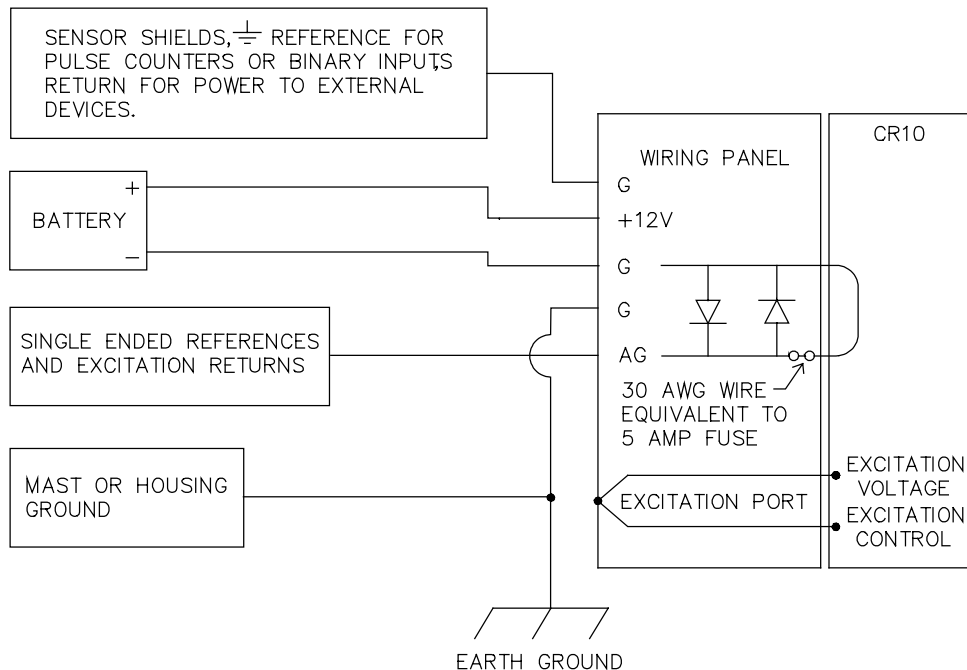

FIGURE 14.7-1. Wiring Panel Grounding Diagram and Excitation Control
Every terminal on the Wiring Panel, with the exception of ground (G) and analog ground (AG) terminals are spark gapped. The spark gaps will fire at 150 V and the current will be diverted to ground. As shown in Figure 14.7-1, the power ground and analog ground are independent lines until joined inside the CR10. The fuse shown in Figure 14.7-1 (located on the underside of the Wiring Panel) is a 30 AWG wire, equivalent to a conventional 5 Amp fuse. It will blow if a sufficient transient comes in on the G or AG lines, at which time the current is
The purpose of the Wiring Panel is to provide transient protection, improve excitation voltage accuracy, and make convenient, positive connections of power, sensors, and peripherals to the CR10 (refer to Figure 14.7-1). Wiring Panel transient protection is discussed in Section 14.7.
The Wiring Panel carries two lines between the CR10 and each excitation port. One line is for excitation voltage, the other is for feedback control of the voltage. The feedback line is required to compensate for line losses between the CR10 and the excitation port on the Wiring Panel (see Figure 14.7-1).